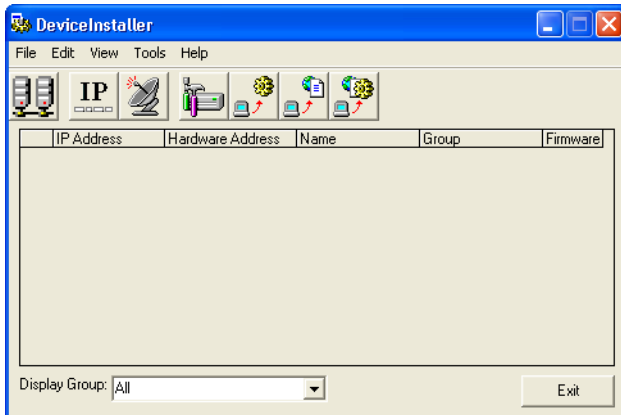

Figure 18: The DeviceInstaller Program Window
1. Double-click the Lantronix DeviceInstaller icon to start the configuration program. The DeviceInstaller program opens (see Figure 18).